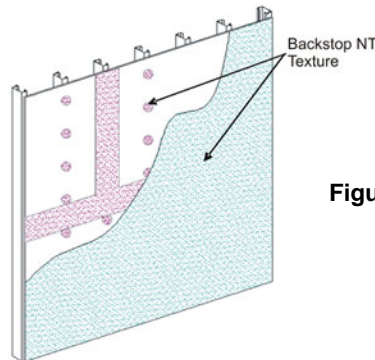

Figure 16
- 2) Allow to dry for a minimum of two (2) hours or until dry to the touch. **NOTE: Cool, humid conditions may require longer drying times**
- 3) Use a coarse, open-cell foam roller cover with a 9.5 mm (3/8 in) foam nap (FoamPRO #58 roller). Apply a uniform, continuous film of Backstop NT – Texture over the entire surface of the sheathing, concrete or masonry, including the previously treated areas – Figure 16. **NOTE: If the roller pulls material back out of the sheathing joints, it indicates that the joint material is not sufficiently dry.**
- a) For concrete and masonry, ensure that a continuous film of uniform thickness is applied across the entire surface and across mortar joints. Minimum two (2) coats are required allowing a minimum of two (2) hours between coats. Cool, damp weather may require longer time between coats.